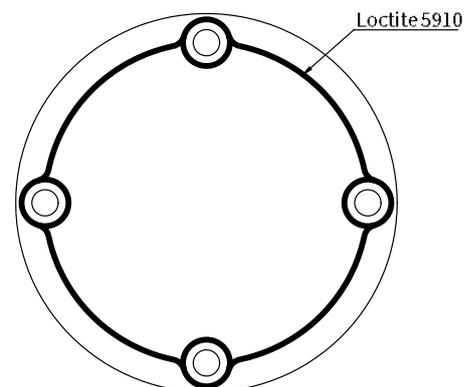

Fig. 13.19
- Seal top cover plate (1130) onto top housing with Loctite 5910 see Fig. 13.19